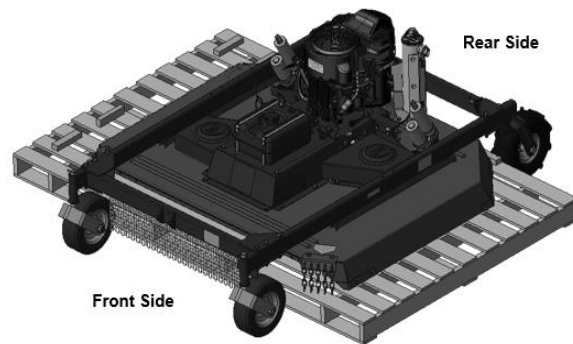

Figure 3
5. With two people, lift Frame and rotate 90 degrees clockwise. Place frame on Front side of Deck assembly, oriented as shown in (**Figure 3**). Note the position of the Lugged tires behind the rear of machine.